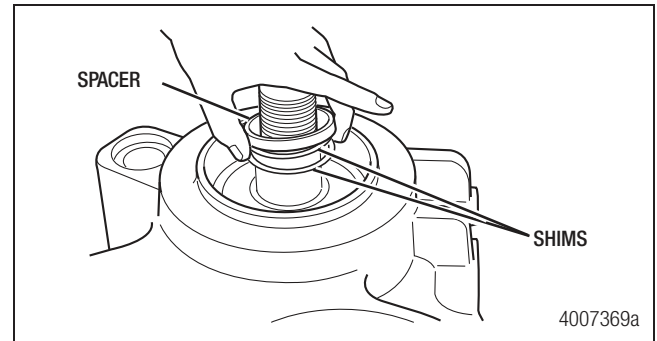

Figure 7.20
- Install the shims and spacer over the shaft. If the bearings are being replaced, install a starting shim pack thickness of 0.036” (0.91 mm) or use the same thickness as removed. Figure 7.20.